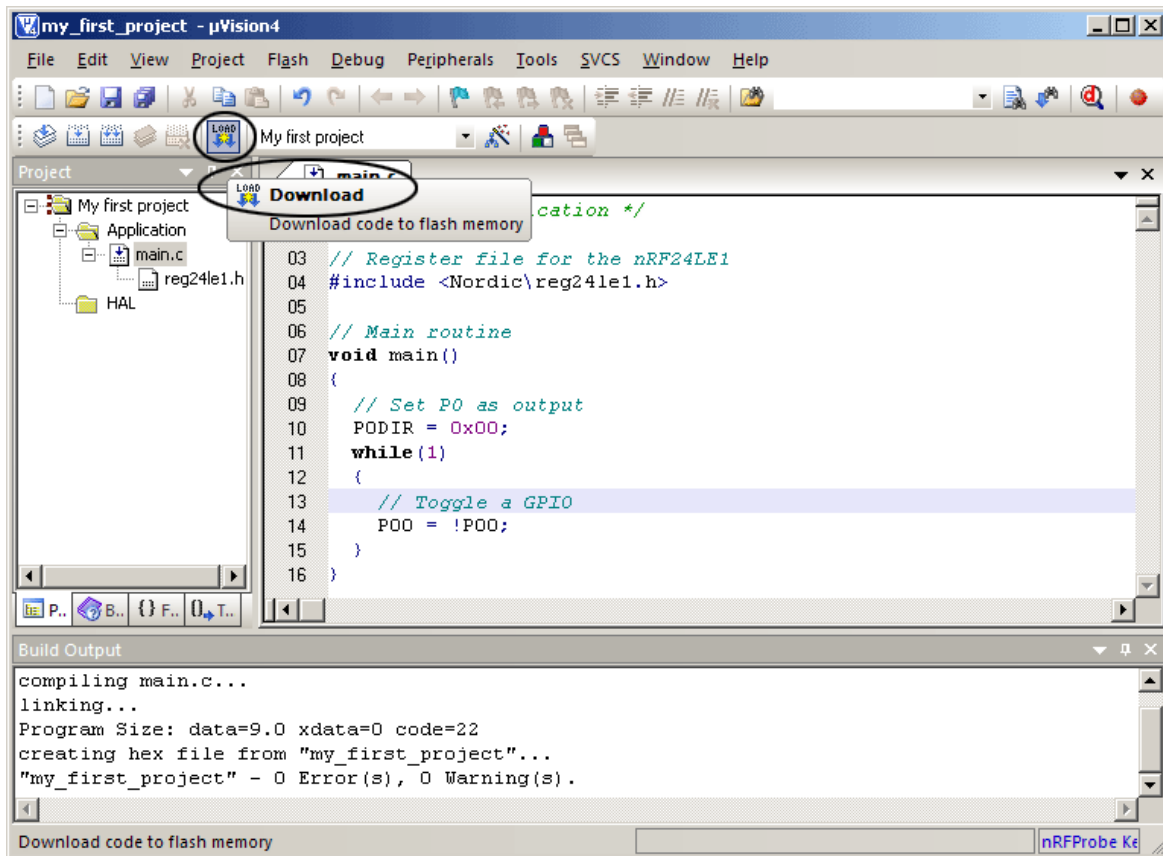

Figure 23. Programming the nRFLE1 module from Keil
10. After compiling the code you can program the nRF24LE1 module plugged into the nRFgo Motherboard by selecting **Download**. See encircled area in Figure 23. on page 20.